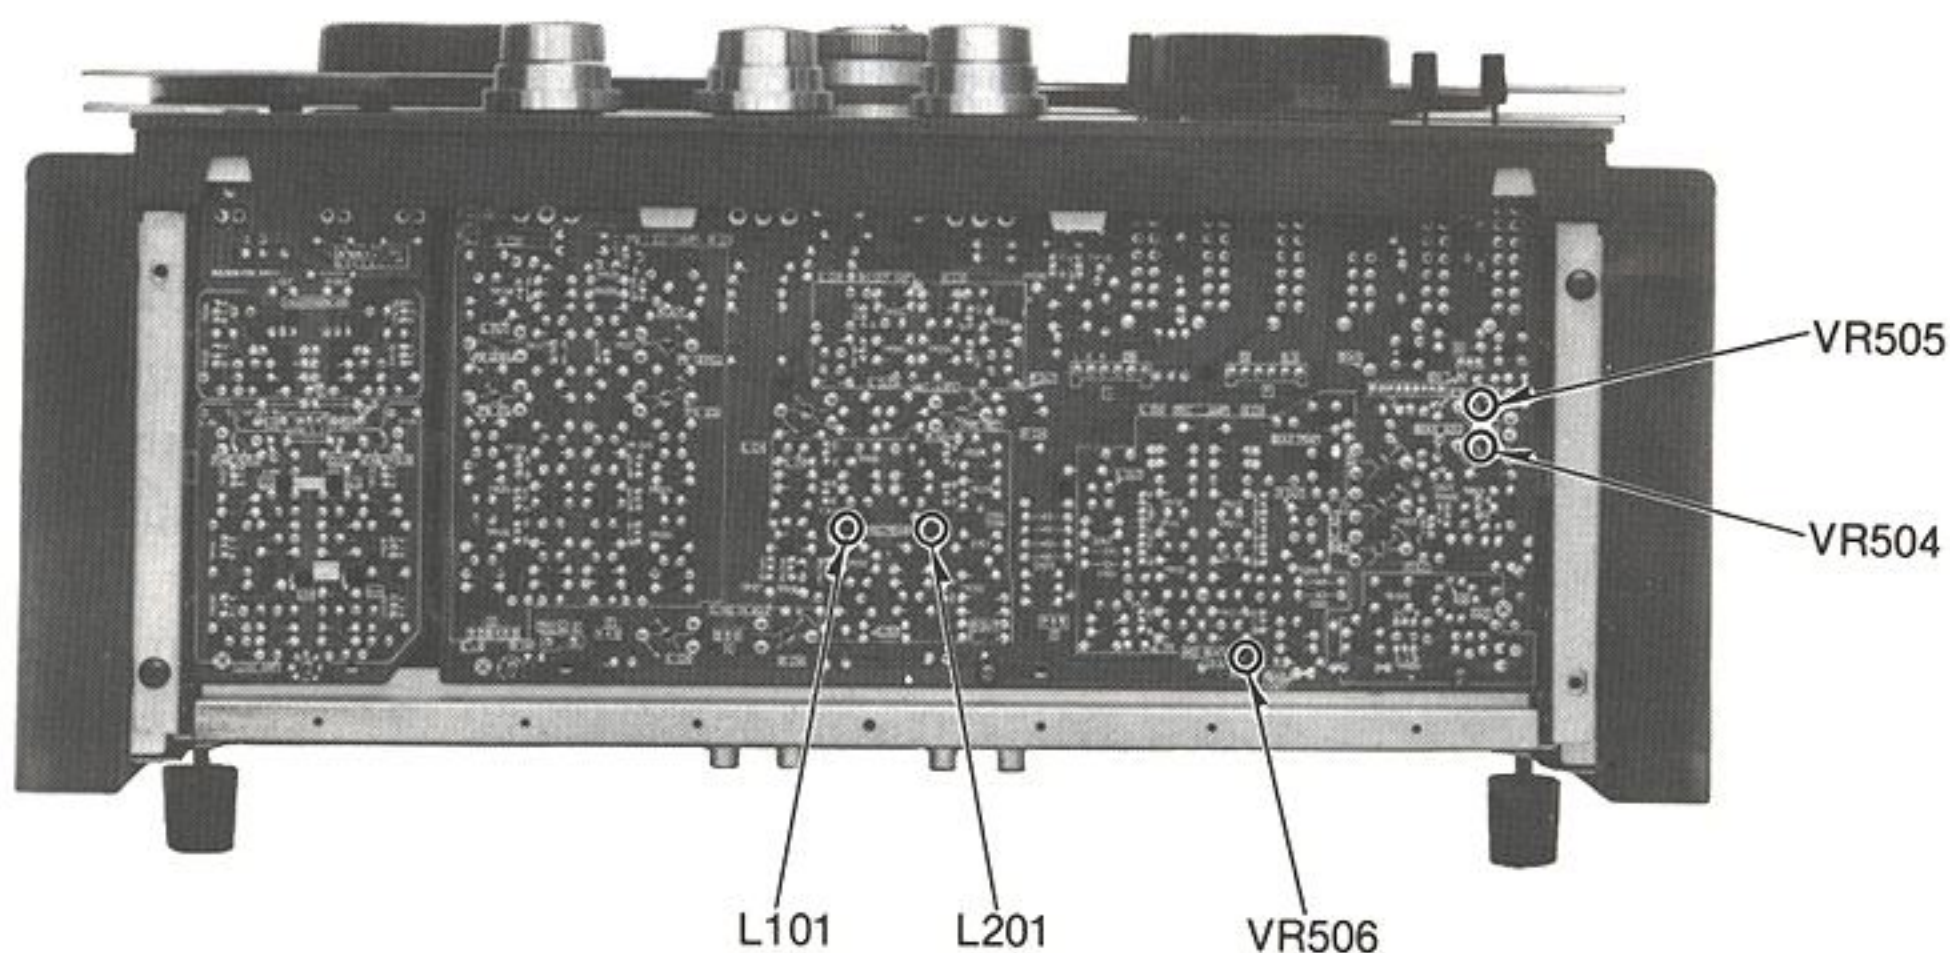

Fig. 47
11. If it is not, adjust peaking coils L101 (for L-CH) and L201 (for R-CH) shown in figure 47.